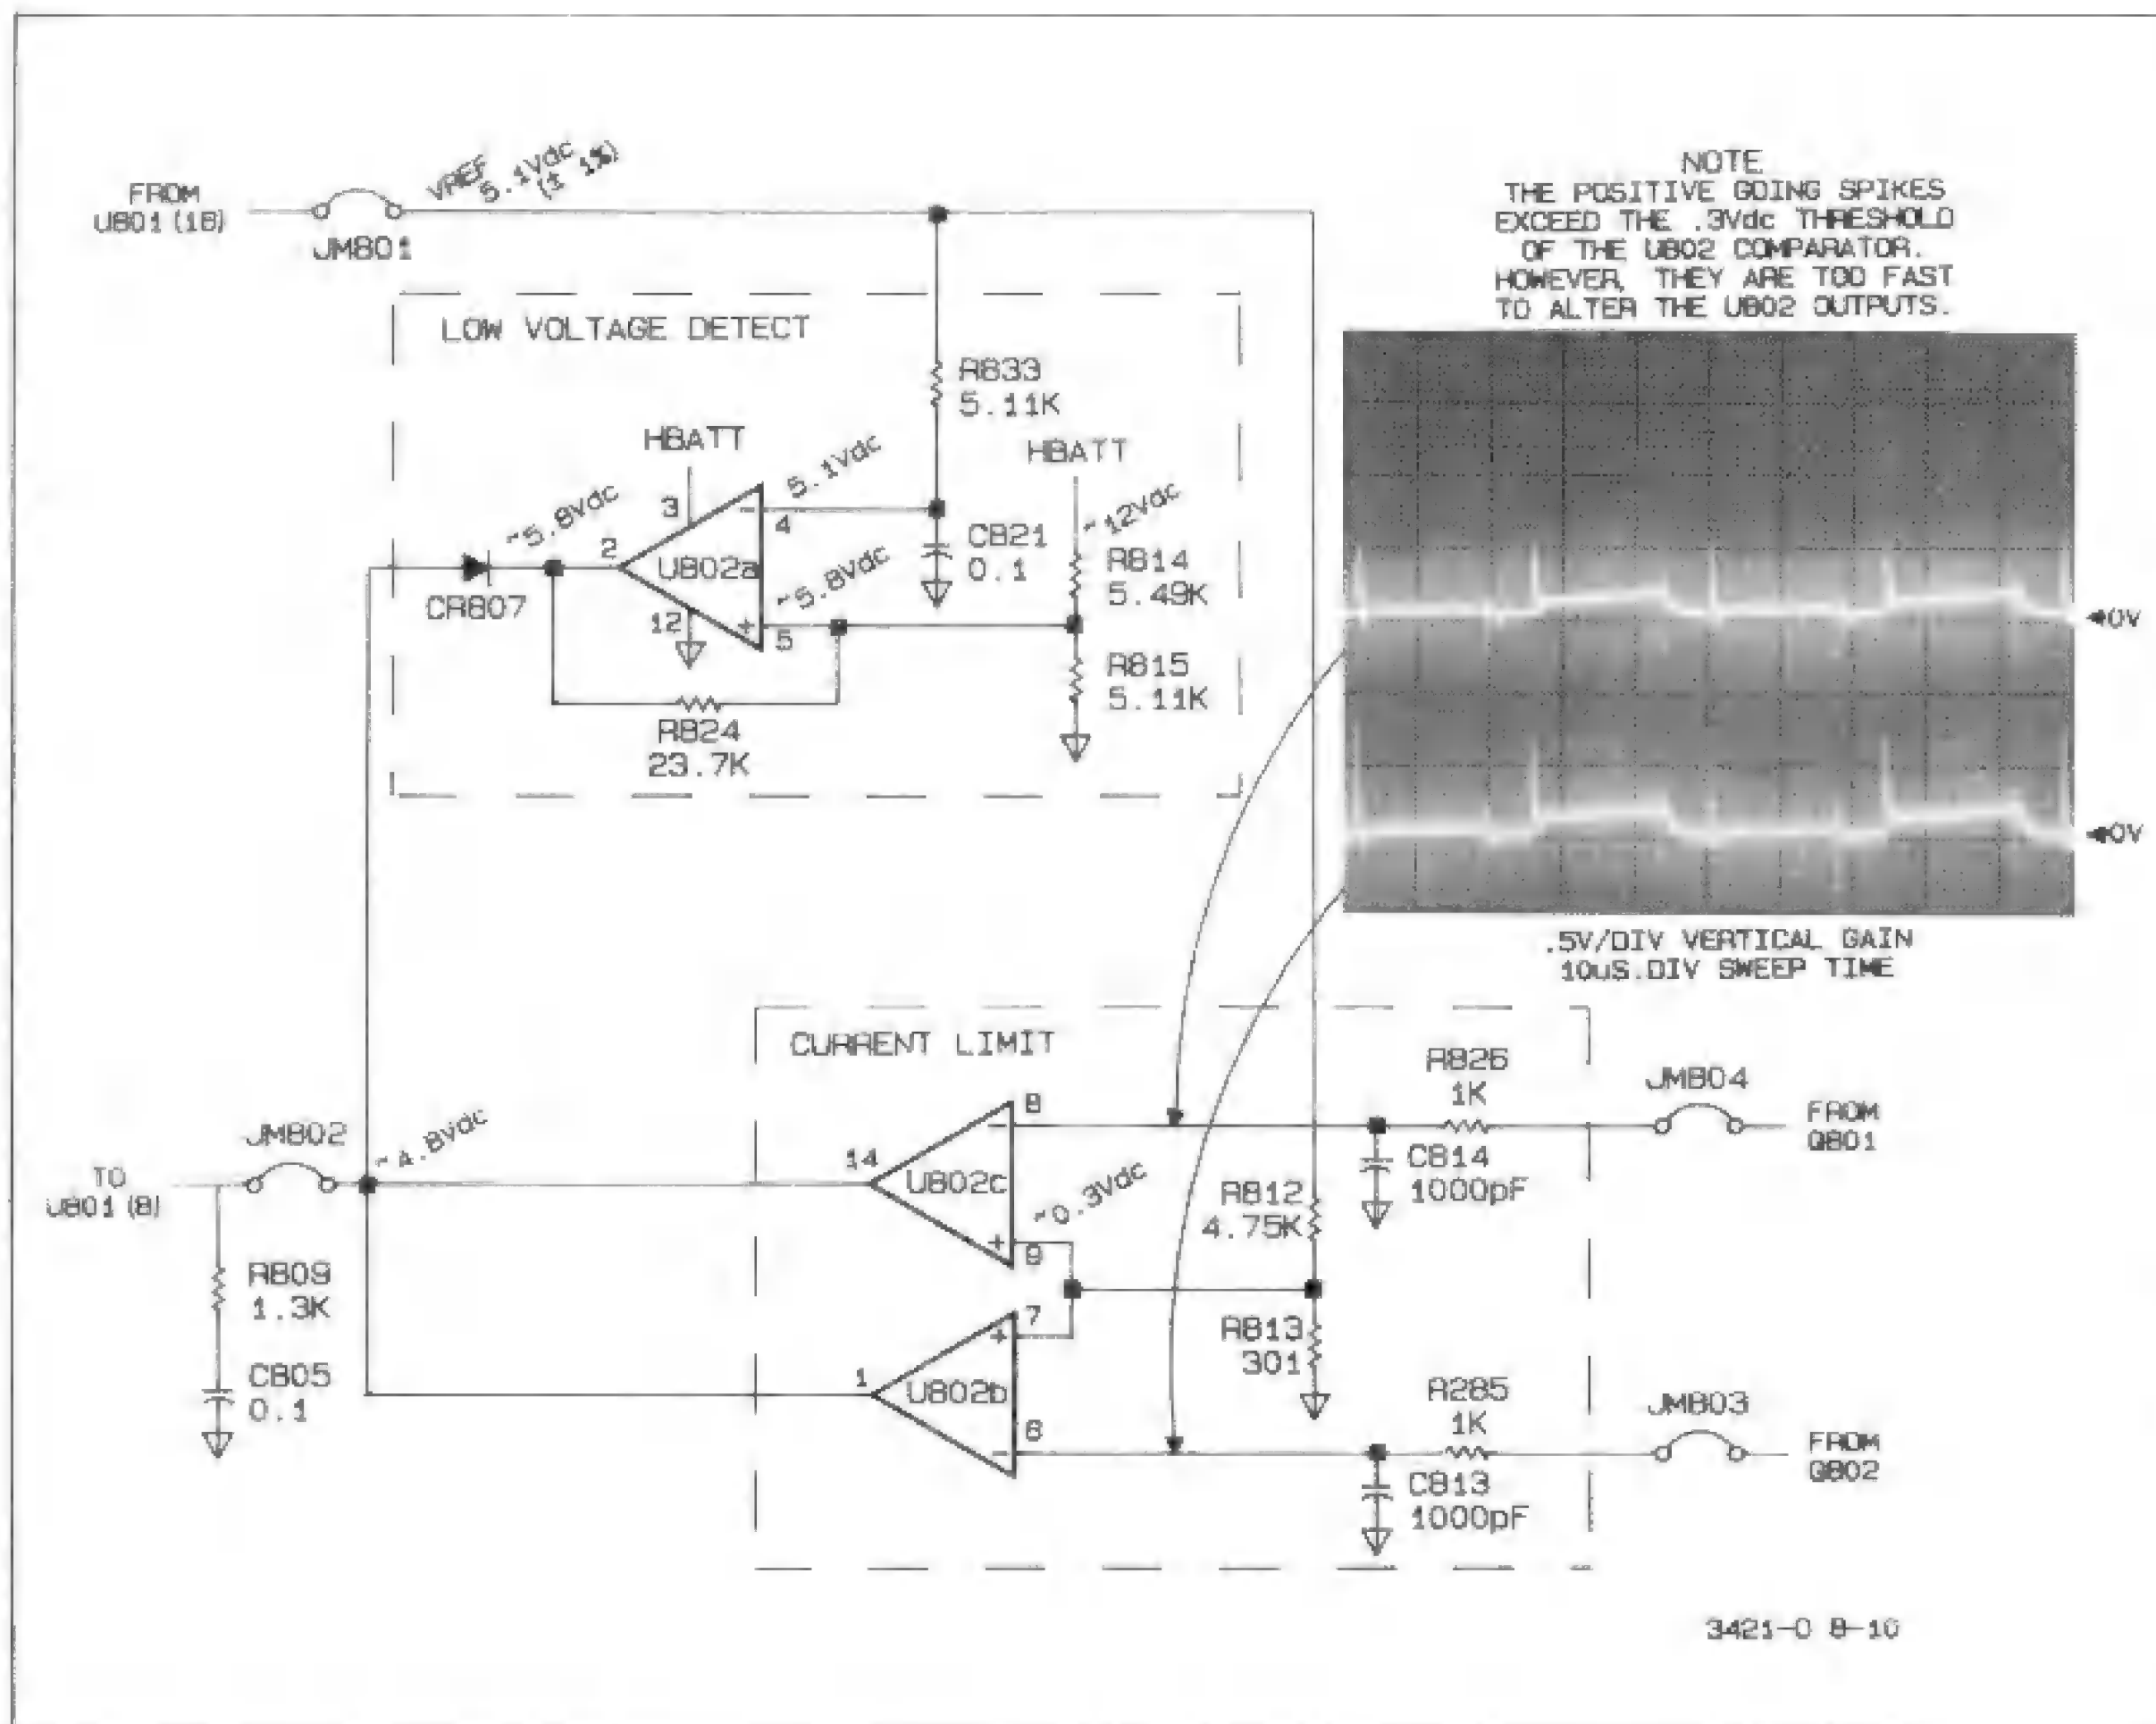

Figure 5-8-10. External Low Voltage Detect & Current Limit Voltages and Waveforms
**5-8-71. External Low Voltage Detect and Current Limit.** The voltages and waveforms for these two circuits are shown in Figure 5-8-10. Notice that the positive spikes appearing at U802 pins 6 and 8 exceed the .3 Vdc threshold of U802B and U802C. However, these spikes are too fast for the comparators to respond. Hence, the outputs of U802B and U802C remain high and do not cause a current limit condition. It is the period between the positive going spikes that, when they reach a level exceeding the .3 V threshold, will limit the current.